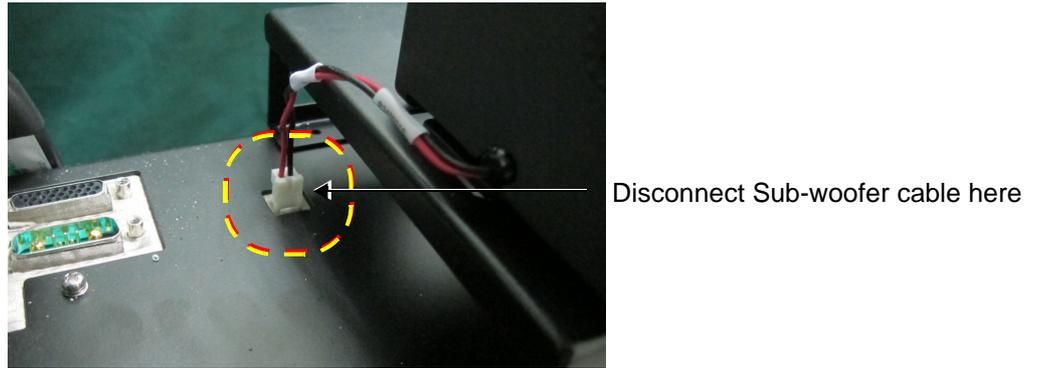

Figure 8-192 Sub-Woofer Cable Connection
- 2) Disconnect the Sub-woofer cable from the connector on the BIF - refer to Figure 8-192.
- 3.) Connect the Sub-woofers cable to the connector on the BIF - refer to Figure 8-192.